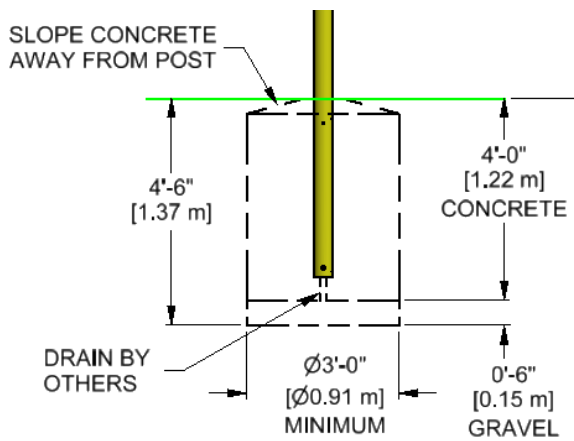
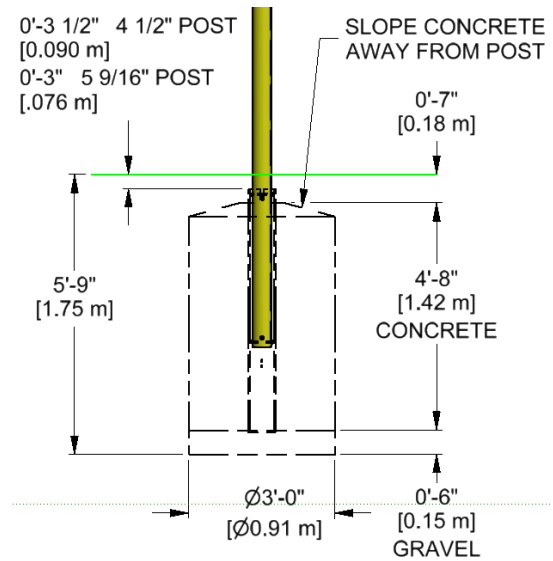

FIGURE 1 (permanent)
FIGURE 2 (sleeve mount)
2. Dig hole as shown in Figure 1, Figure 2, or Figure 3 depending on the type of post installation required. Figure 1 shows dimensions for a permanent mounting, Figure 2 shows dimensions for ground sleeve mounting, and Figure 3 shows dimensions for the plate mounted goals.
Post Installation – Permanent Mount (Figure 1)
Ground Sleeve Installation (Figure 2)